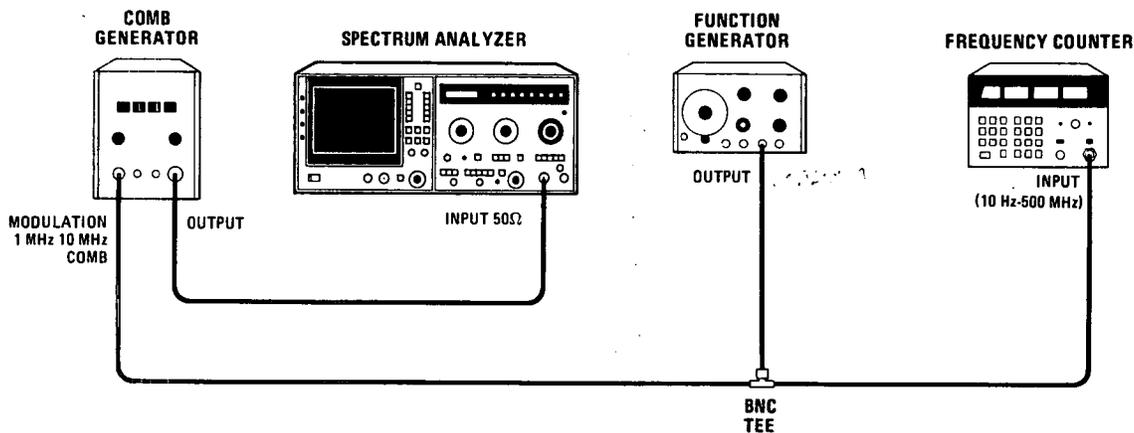

Figure 4-2. Span Width Accuracy Test Setup
2. Connect equipment as shown in Configuration A of Figure 4-2.
11. Connect equipment as shown in Configuration B of Figure 4-2 without connecting function generator. Set comb generator for 100 MHz comb output.